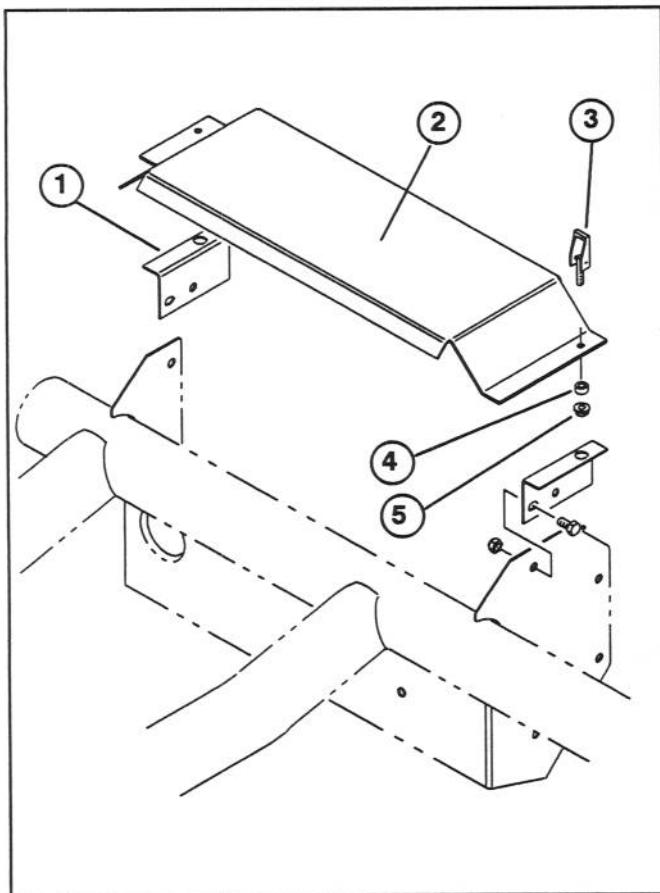

Figure 1
4. Insert a swell latch into each mounting hole of radiator cover as shown in figure 1. Secure latches to each side with a rubber grommet and plastic nut.